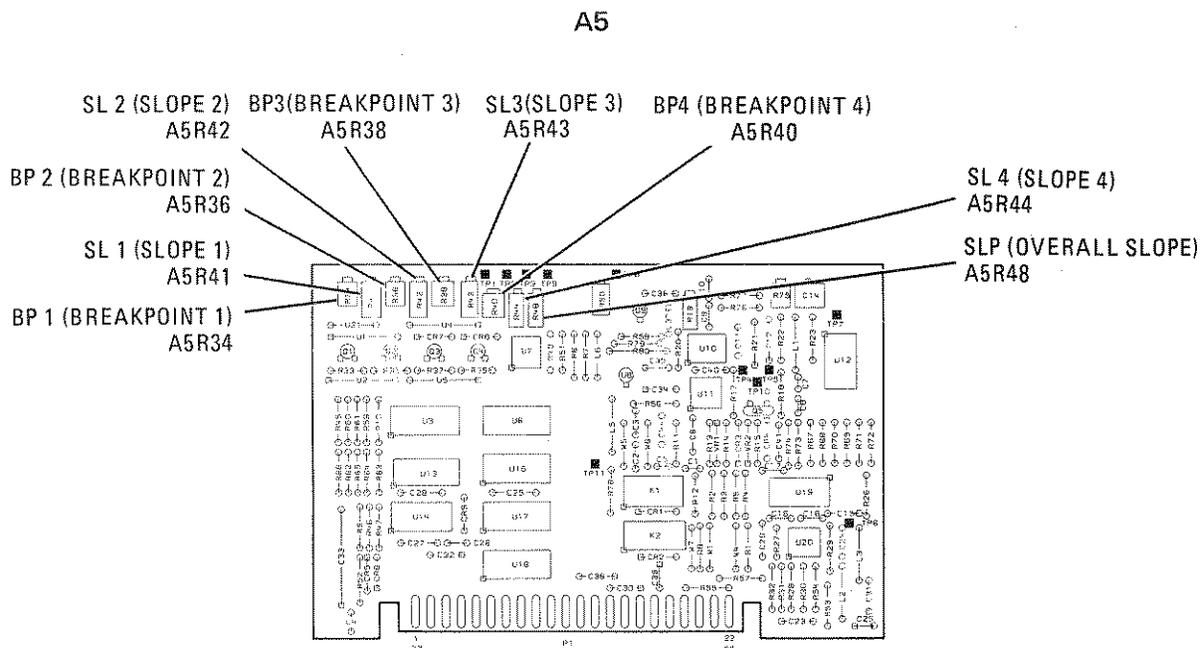

Figure 5-32. Internal Leveling Adjustment Locations
2. Adjust all breakpoint potentiometers fully clockwise to effectively remove the circuit from the ALC leveling loop. These potentiometers are A5R34 (BP1), A5R36 (BP2), A5R38 (BP3), and A5R40 (BP4). Refer to Figure 5-32 for adjustment locations.